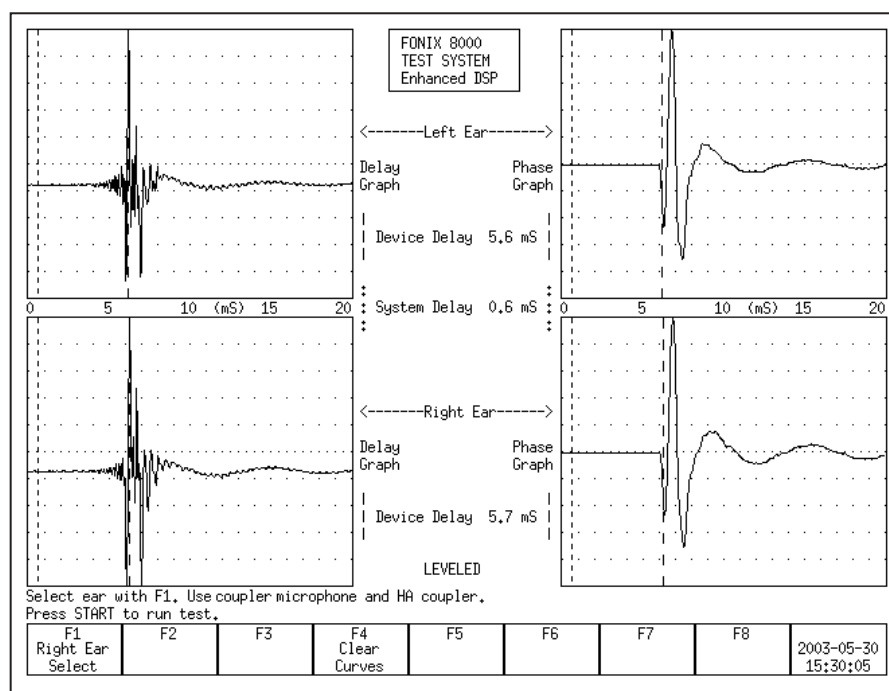

Figure 4.1.3—Enhanced DSP measurement results
6. Set up a second hearing aid in the sound chamber, if desired, and use [F1] to select the other ear. Press [START] to perform the measurements on this second aid. This will allow you to compare the results of the two hearing aids. See Figure 4.1.3.